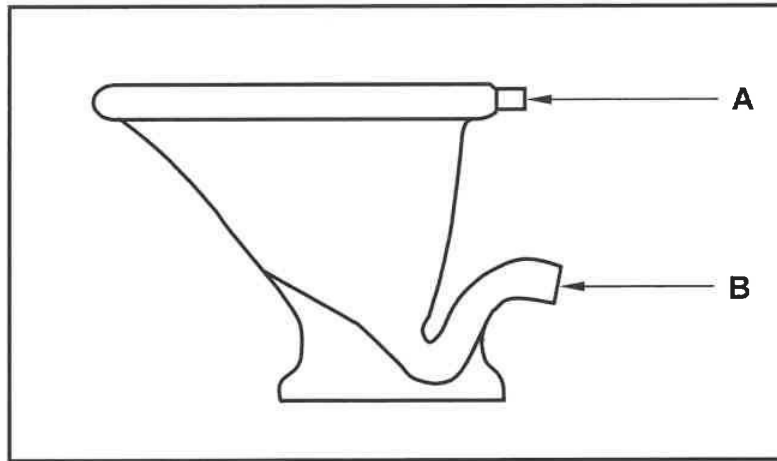

FIGURE 6.2
- (1)
6.2 FIGURE 6.2 below shows a water closet pan.